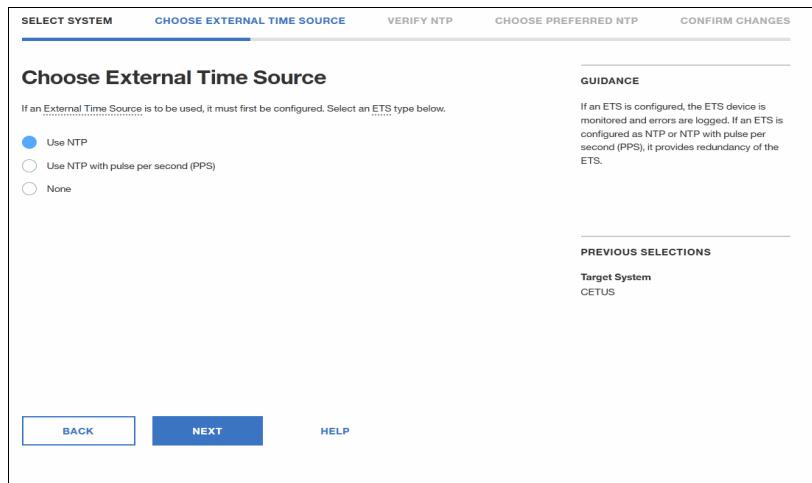

Figure 8-46 Choose External Time Source
3. The **Choose External Time Source** window opens. We select *Use NTP*. Click **NEXT** to continue (Figure 8-46).